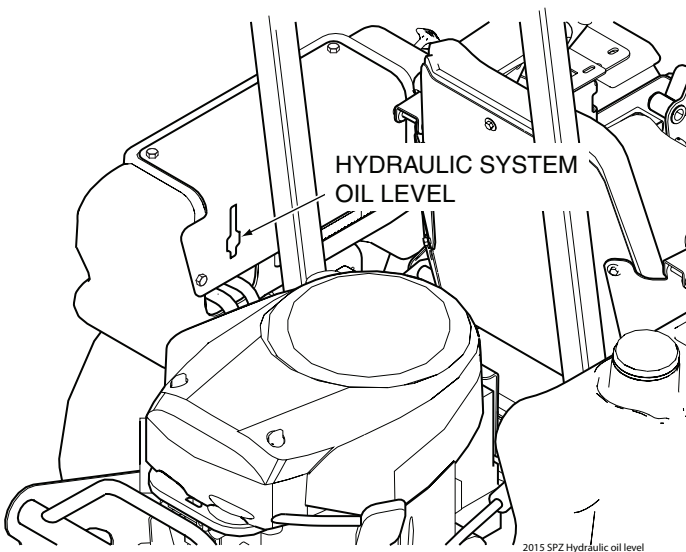

Figure 7-1. Hydraulic System Oil Level
2. When the machine is "cold" (before operation), visually check the level of the hydraulic system oil. Hydraulic system oil level should be in the middle of the indicator window located on the left side of the machine. See Figure 7-1. DO NOT overfill; (overfilling the oil reservoir may cause oil seepage).